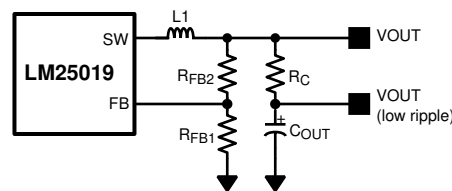

图 7-2. Low Ripple Output Configuration
This regulator regulates the output voltage based on ripple voltage at the feedback input, requiring a minimum amount of ESR for the output capacitor ( $C_{\text{OUT}}$ ). A minimum of 25 mV of ripple voltage at the feedback pin (FB) is required for the LM25019. In cases where the capacitor ESR is too small, additional series resistance can be required ( $R_{\text{C}}$  in 图 7-2).
For applications where lower output voltage ripple is required the output can be taken directly from a low ESR output capacitor, as shown in 图 7-2. However,  $R_{\text{C}}$  slightly degrades the load regulation.